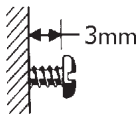

Figure 2
- Fix the 32mm screw provided into the wall leaving the head of the screw 3mm (1/8") out from the wall (Figure 2).